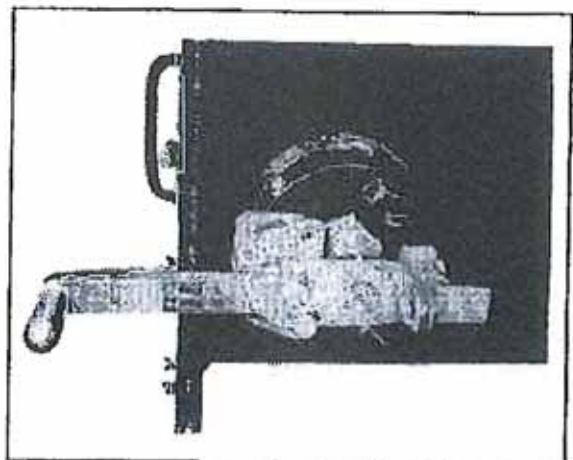

Fig. 8 Network Switch Operating Handle
1. When pin marked A on the handle (See Figure 8) stops the movement, the contacts are engaged for phase A. Phases B and C are open-circuited. Check for circuit through phase A with test voltage, then tag.